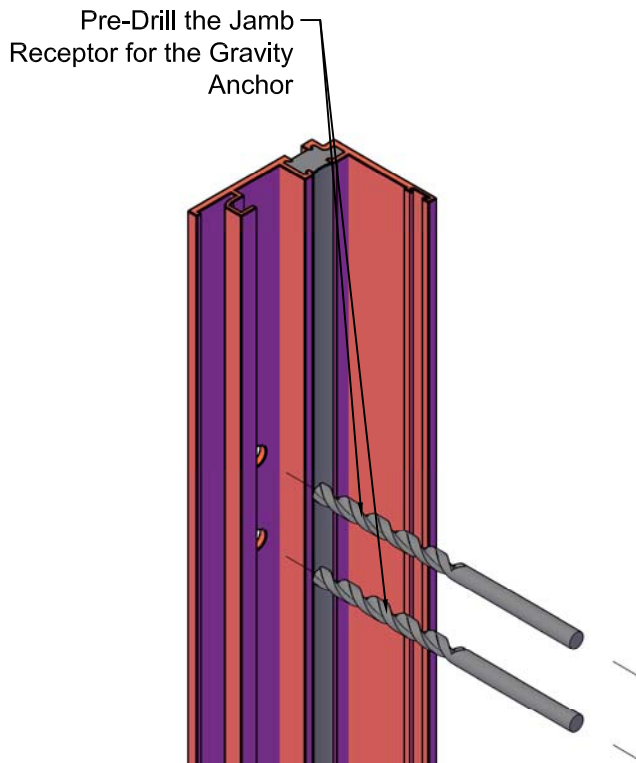

Fig. 6
5) For installation using a jamb receptor, lay out and pre-drill clearance holes for the gravity anchor fastener. See Fig. 6